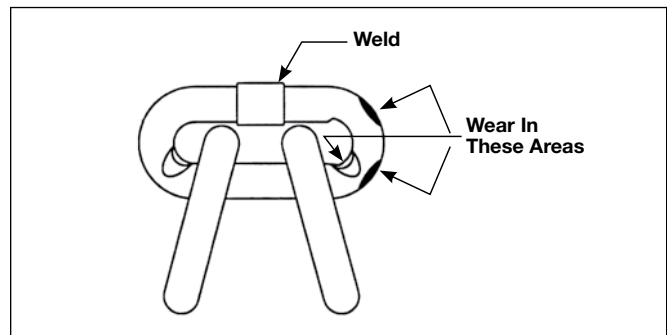

Figure 6 - Chain Inspection
1. Chain for excessive wear or stretch (See Figures 6 and 7, page 7).